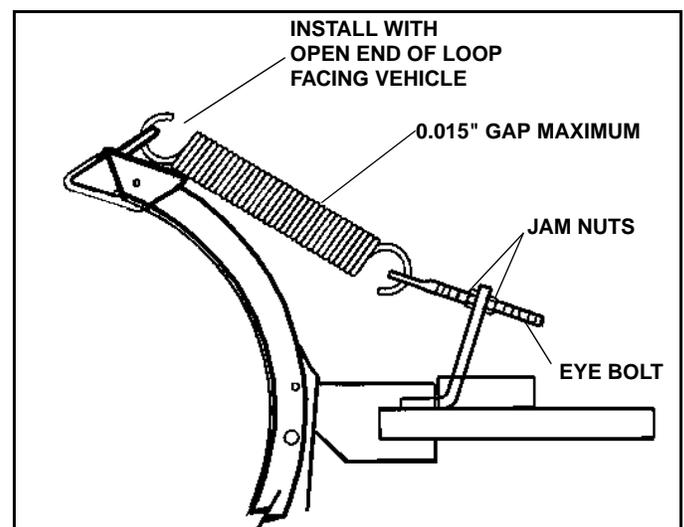

Figure 4-1
2. Insure that Blade Spring is installed as illustrated with open end of top loop facing vehicle. (See Figure 4-1)
3. Adjust springs by loosening jam nuts on end of the eye bolts and turning opposing nut in proper direction. (See Figure 4-1)